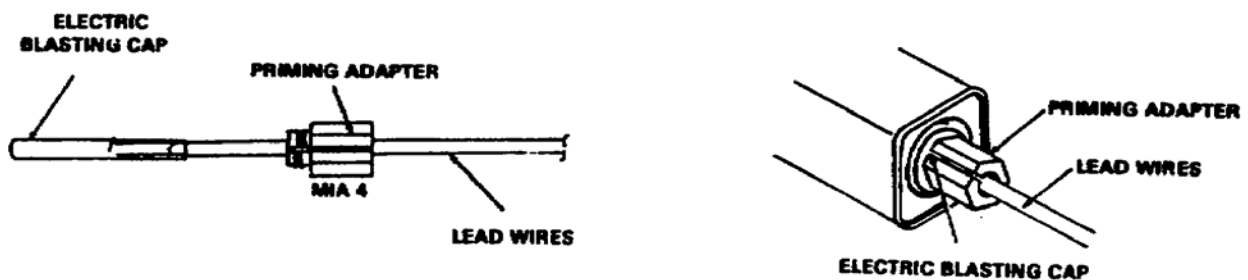

Figure 16. Electric blasting cap and explosive.
Step 5. Join the blasting cap with the explosive charge and fasten securely (Figure 16).